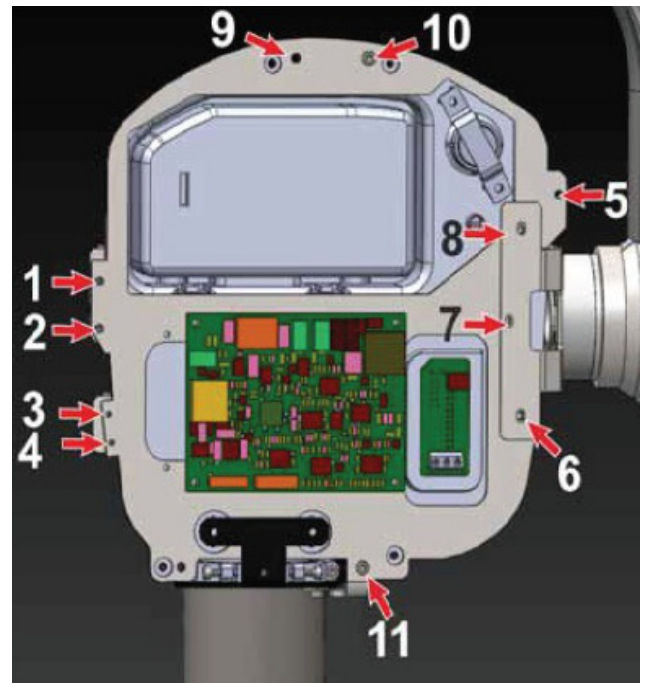

Figure 85
- To remove the HV Tank from the clamp, remove the 5 (M3X6 Hex. socket button head) screws (from 1 to 5 as shown in Figure 85) using 2mm allen key.
- Remove 3 (M3X6 Hex. Soc. Head cap) Screws (From 6 to 8 as shown in Figure 85) on the top of the clamp near Tube head arm using 2.5mm allen key.
- Remove 3 (M3X14 Hex Soc. head cap) screws (from 9 to 11 as shown in Figure 85) along with M3 plain washers & M3 nut using 2.5mm allen key and 5.5mm Nut driver.
- Using 2.5mm allen key & 5.5mm nut driver fix 3 Hex. Soc. head cap screws(M3X16) with M3 plain washers & M3 nuts (at the locations 9 to 11 as in Figure 85) such that the screw along with M3 plain washer should be inserted from bottom and nut along with M3 plain washer should be on the top of the HV Tank.
- Fix 5 button head screws(M3X6) using 2mm allen key(at the locations 1 to 5 as in Figure 85).
- Fix 3 Hex. Soc. Head cap screws(M3X6) on the top of the clamp near Tube head arm at the locations (6 to 8 as in Figure 85) using 2.5 mm Allen key.